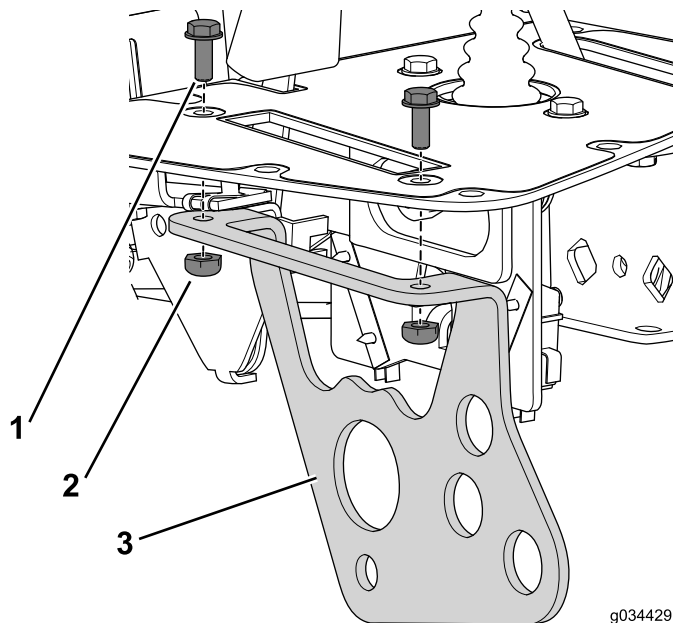

Figure 21
1. Use the bolt (#10 x 1/2 inch) and locknut to secure the function-lever bracket to the console (Figure 21).